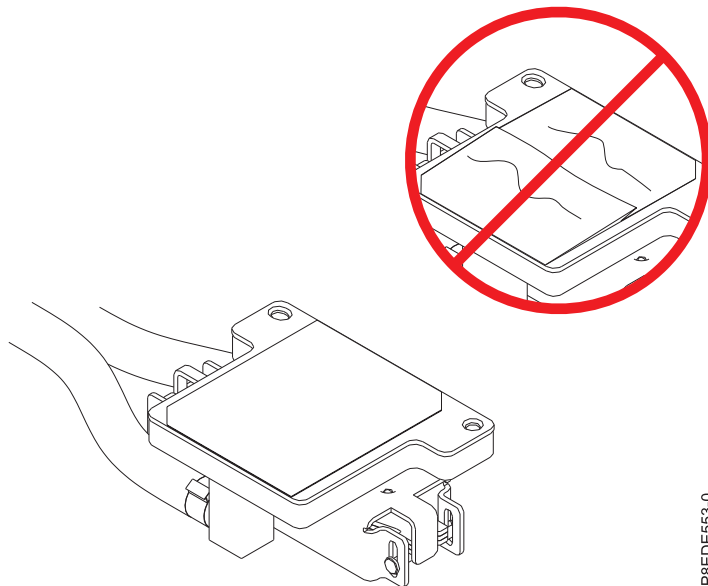

Figure 193. Inspecting the thermal interface material
6. Inspect the thermal interface material (TIM) for visible signs of damage as shown in Figure 193. The thermal interface material (TIM) is typically adhered to the cold plate. Unless damaged, the TIM that is adhered to the cold plate can be reused.